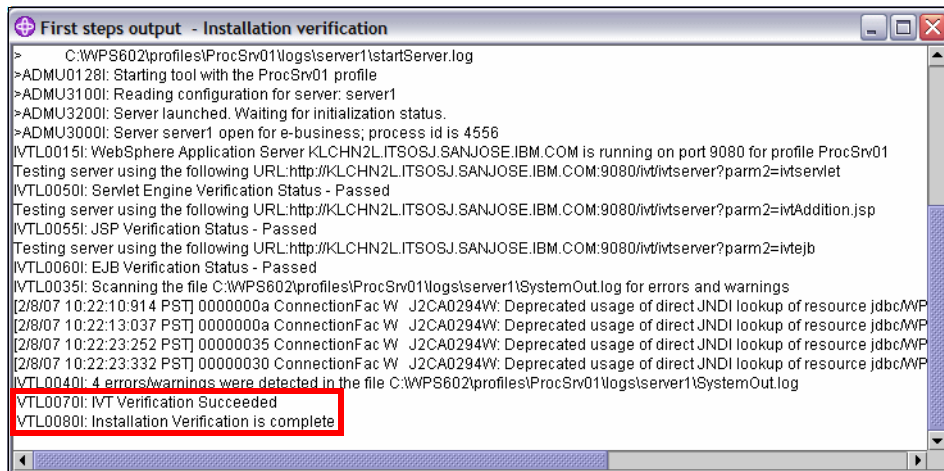

Figure A-26 WebSphere Process Server: Installation Verification
- Make sure that you see IVT Verification Succeeded (Figure A-26).